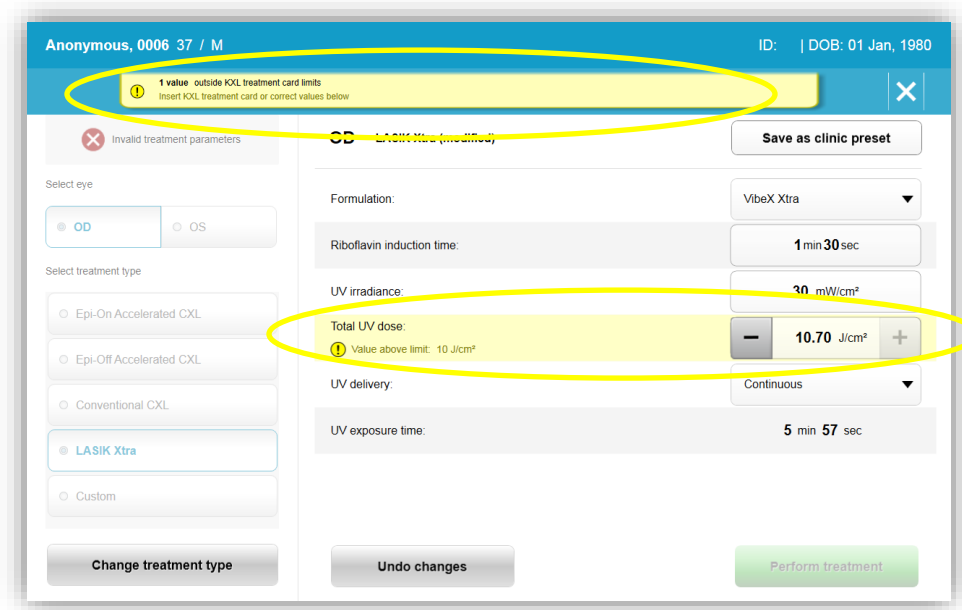

Figure 3-17. Invalid Treatment Parameters
- o If the user has the treatment card inserted while programming treatment parameters that are outside the allowable value(s) controlled by the RFID card, the following message will appear and “Perform treatment” will be unable to be selected as shown in Figure 3-17.